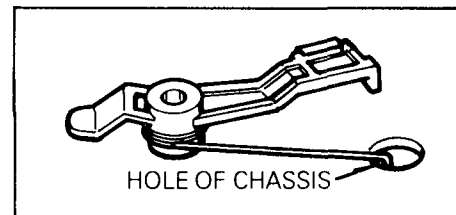

Fig. B-22-2 CAP Brake Assembly
- 2) Hook the end of Capstan Brake Spring to the projection of Capstan Brake and then remove the Capstan Brake Assembly by lifting it up (Fig B-22-2)